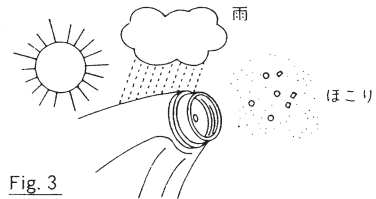

Fig. 3
- Do not use or store the instrument at a location where ; temperature or humidity is high ; the instrument is exposed to the direct sunlight ; there is much dust ; there is greasy fumes or corrosive gasses. Otherwise a deteriorated or soiled measurement window causes inaccurate readings.(Fig.3)